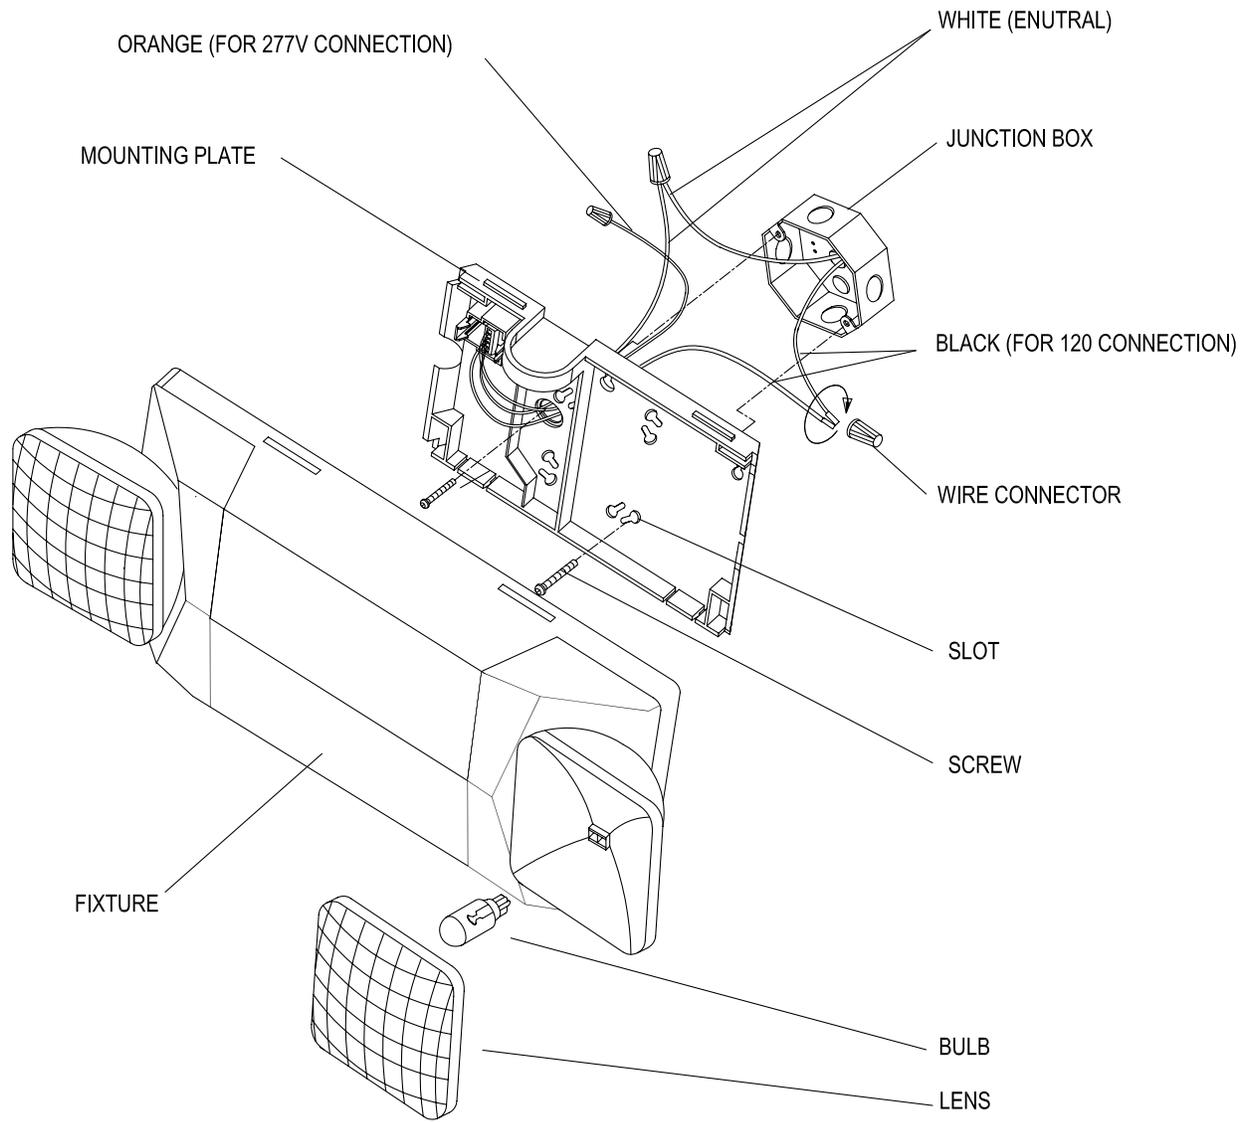

Fig. 1
- Remove mounting plate from fixture by prying with screwdriver (See Fig.1)